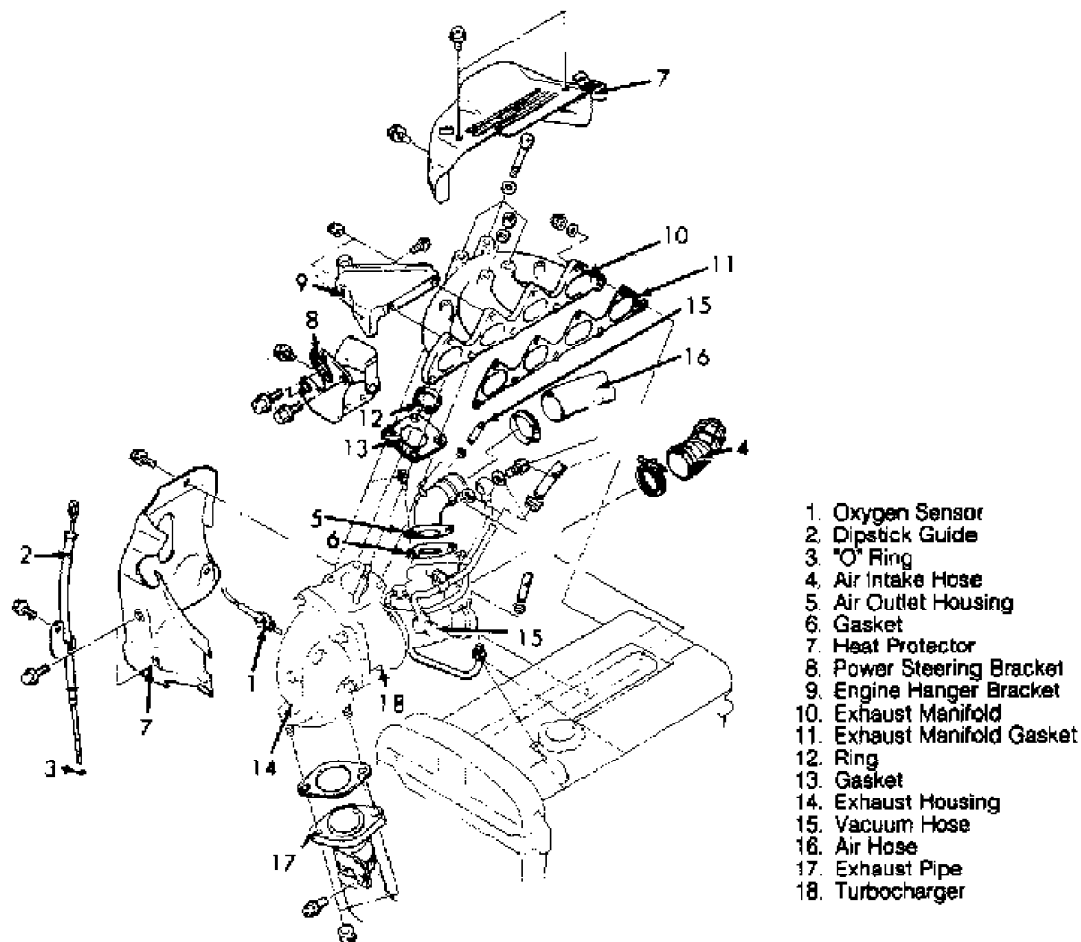

Fig. 8: Removing Turbocharger (Eclipse & Galant 2.0L)
1) Disconnect negative battery cable. Drain engine coolant and oil. On models with A/C, remove condenser fan motor assembly. On all models, remove oxygen sensor. Remove oil dipstick guide and "O" ring. See Figs. 8 and 9.